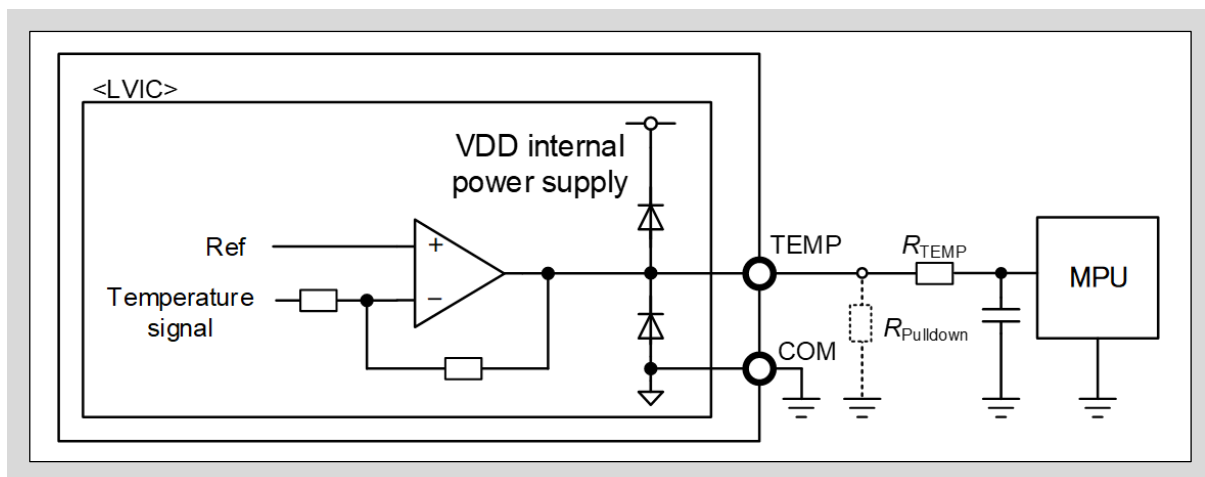

Fig. 3-23 Recommended MPU I/O interface circuit of TEMP terminal
- As shown in Fig. 3-23, the temperature output terminal TEMP can be connected directly to the MPU. It is recommended to connect a bypass capacitor C_{TEMP} and an inrush current limiting resistor R_{TEMP} of 10k Ω or more between the MPU and the TEMP terminal. These signal lines should be as short as possible.
- This product has a built-in temperature sensor in LVIC that outputs analog voltage according to the LVIC virtual junction temperature. This function has no fault status output because it is not intended to protect the product. "6MBP ** XTC065-50" has built-in overheating (OH) protection. Fault status output is generated when the temperature exceeds T_{OH} .
- As shown in Fig. 3-23, a diode is connected between the TEMP-COM terminals. This diode is built-in to protect the product from input surge voltage. Do not use this diode for voltage clamp purpose as it might damage the product.